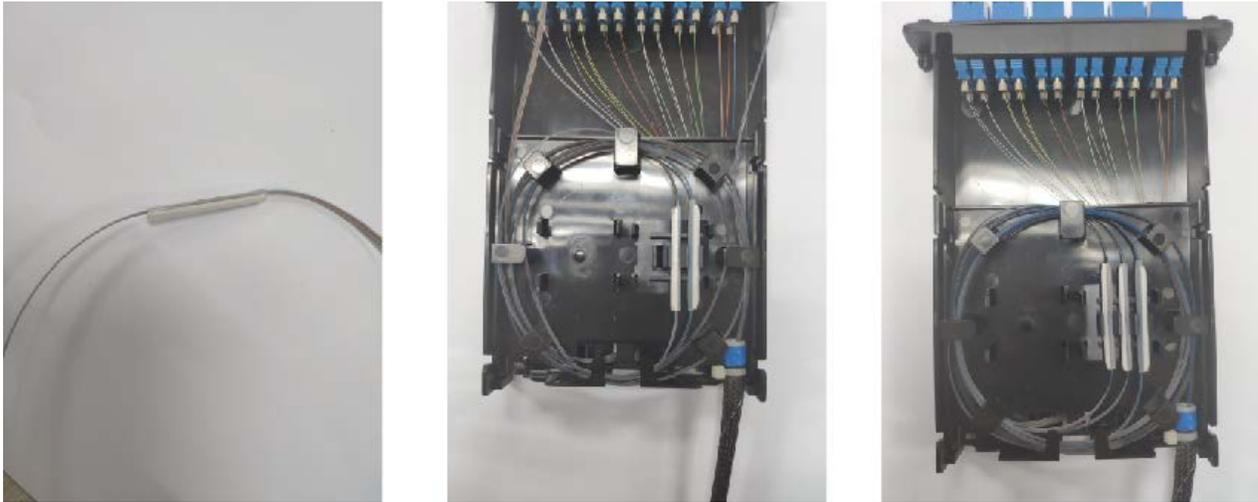

Figure 6. Splice and Route Cable
1. Splice ribbon no.1 per the instructions provided with the splices being used, then loop spliced fibers into cassette and secure fusion sleeves in holder before continuing with splicing (Figure 6, middle picture).
2. Repeat operation for ribbon no.2 (Figure 6, right picture).